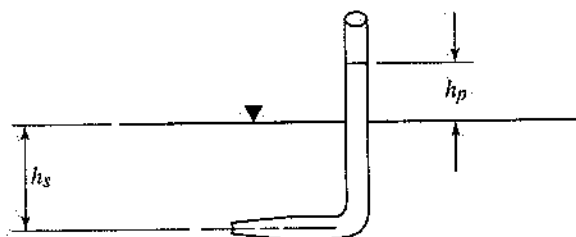

Figure 7.20 Illustration of a Pitot-tube flow-measurement device.
A **Pitot tube** is a device used to measure the stagnation pressure of a moving fluid. It is a tube with a small-diameter hole at the end that is pointed directly into a flowing fluid, as shown in Figure 7.20.
For the system shown in Figure 7.20, the static pressure and the stagnation pressure at the opening of the Pitot tube are given by the following relationships:
- A. For the Pitot tube shown in Figure 7.20, what is the stagnation pressure of the fluid if $h_p = 13.6$ cm and $h_s = 8$ cm? [Assume that the fluid is water ($\rho = 1,000$ kg/m³), and that $p_{\text{atm}} = 101.3$ kPa.]